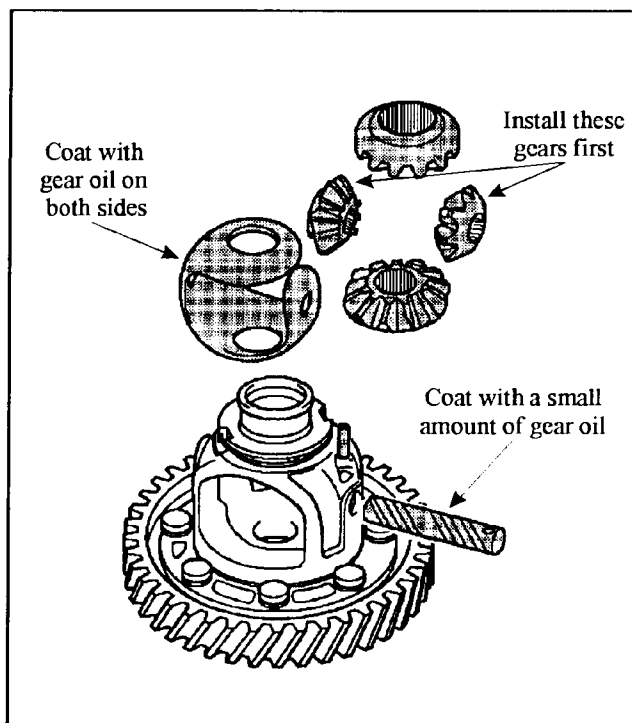

Figure 113
3. Turn the differential over and install a new bearing on this side. Be careful not to break the speedometer drive gear (See Figure 113).